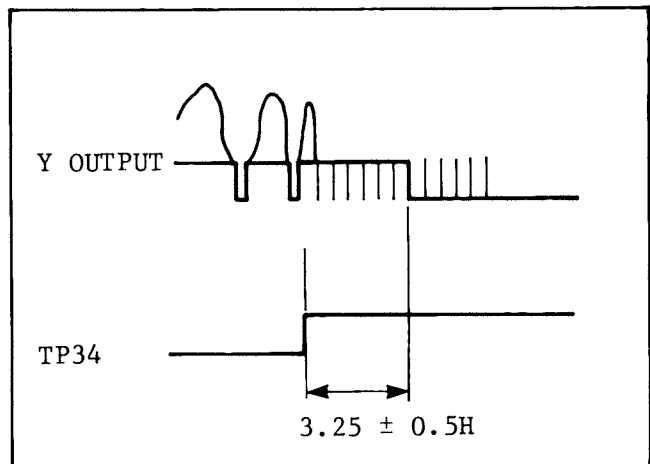

Fig. 3. PG SHIFTER B
8. Adjust VR13 (PG SHIFTER B) so that the rising edge of the switching pulse is $3.25H \pm 0.5H$ before the start of the vertical sync, as shown in Fig. 3.